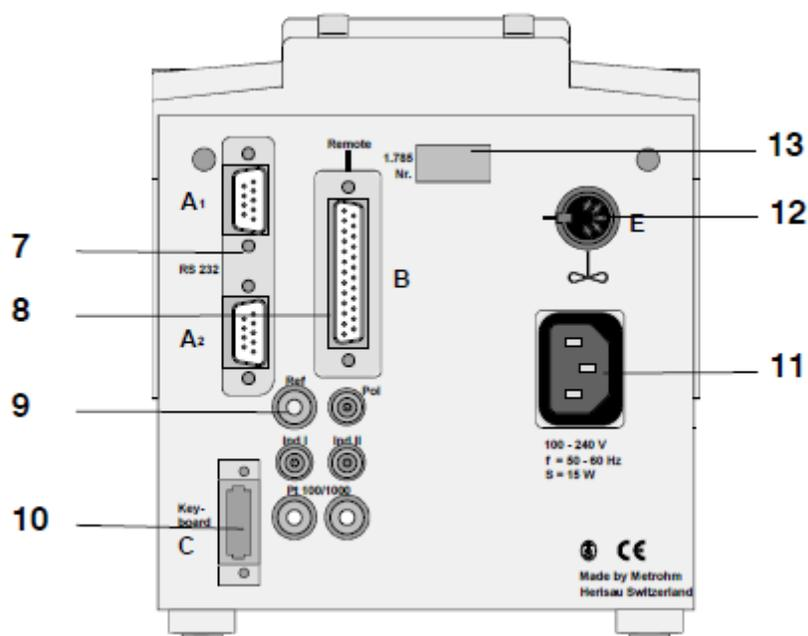

Figure 4. 785DMP Connector Slots.
- Remove the 785 DMP unit from the container, locate the following cords, and plug them into the indicated slot (*Figure 4*):